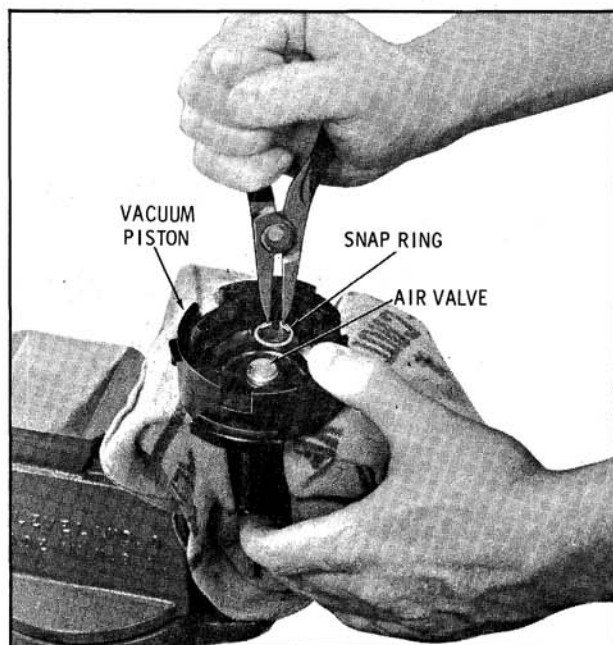

Fig. 11-36 Removing Snap Ring
with shop towels. Do not clamp vise on tube. Using Truarc pliers J-4880, remove the snap ring on the air valve. (Fig. 11-36)
14. Position the vacuum piston assembly in a padded vise, tube down. Do not clamp tube. Using Truarc pliers J-4880, install the snap ring into the groove in the air valve. (Fig. 11-36)